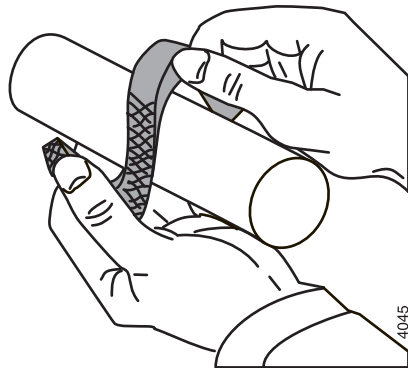

Figure 20: Axially bending open packing rings.
- 1 Fit the 5 packing rings. Place the packing rings with the openings offset. The packing rings may only be bent open axially, see figure 20.